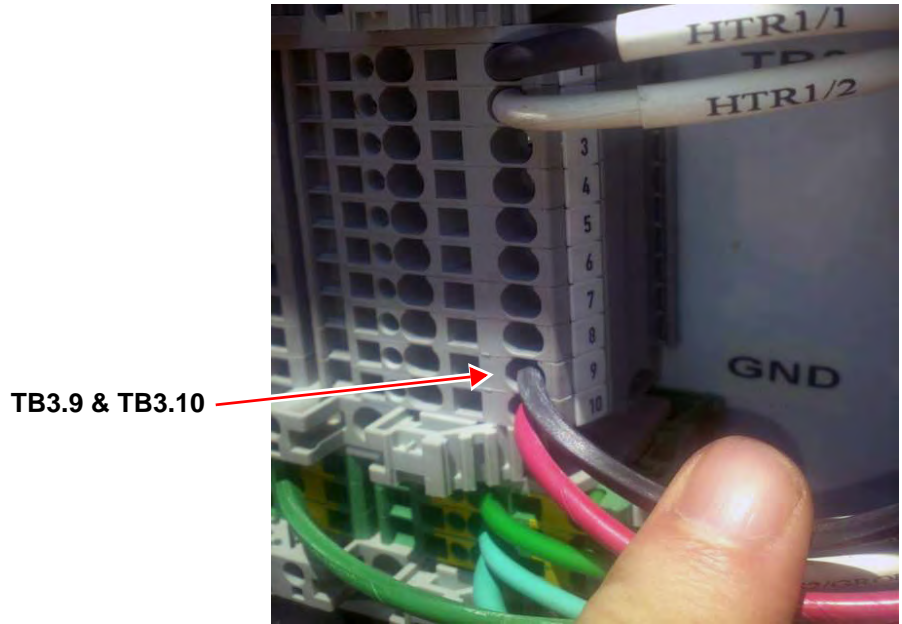

Figure 11: Terminal Block 3, 9 and 10
9. Route cable A to the junction box in place of cable 257/Pump. Connect the black wire to TB3.9 and the red cable to TB3.10 (See Figure 11).